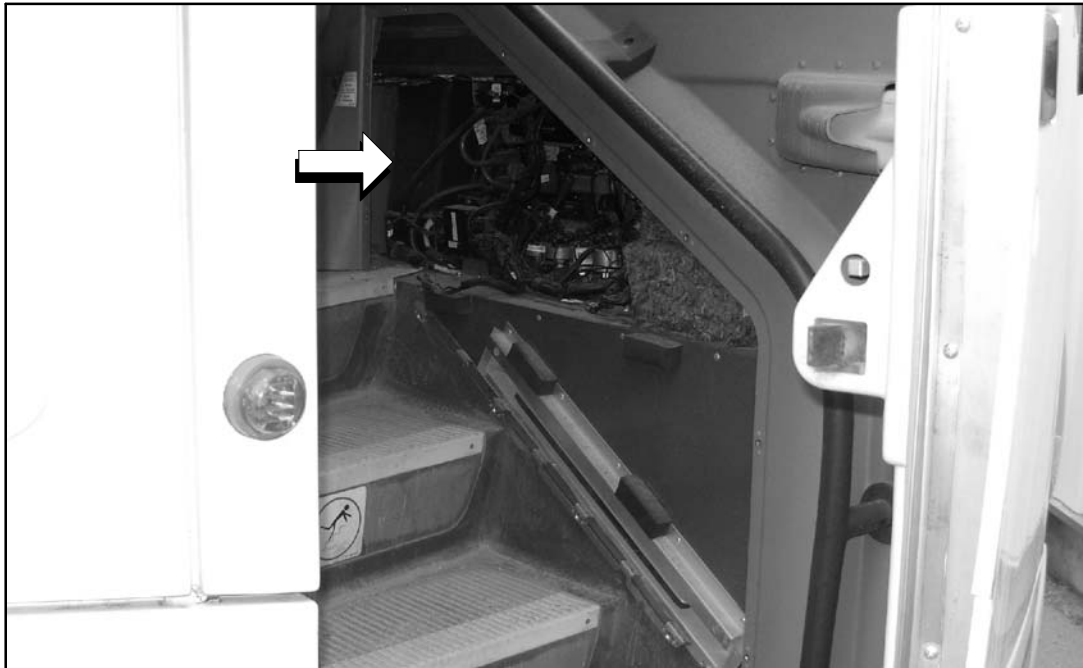

Figure 28.
- 44. Release the fasteners and remove the driver defroster panel, located directly above the stepwell (refer to Figure 28).
58. Release the fasteners and remove the driver defroster panel, located directly above the stepwell (refer to Figure 28).